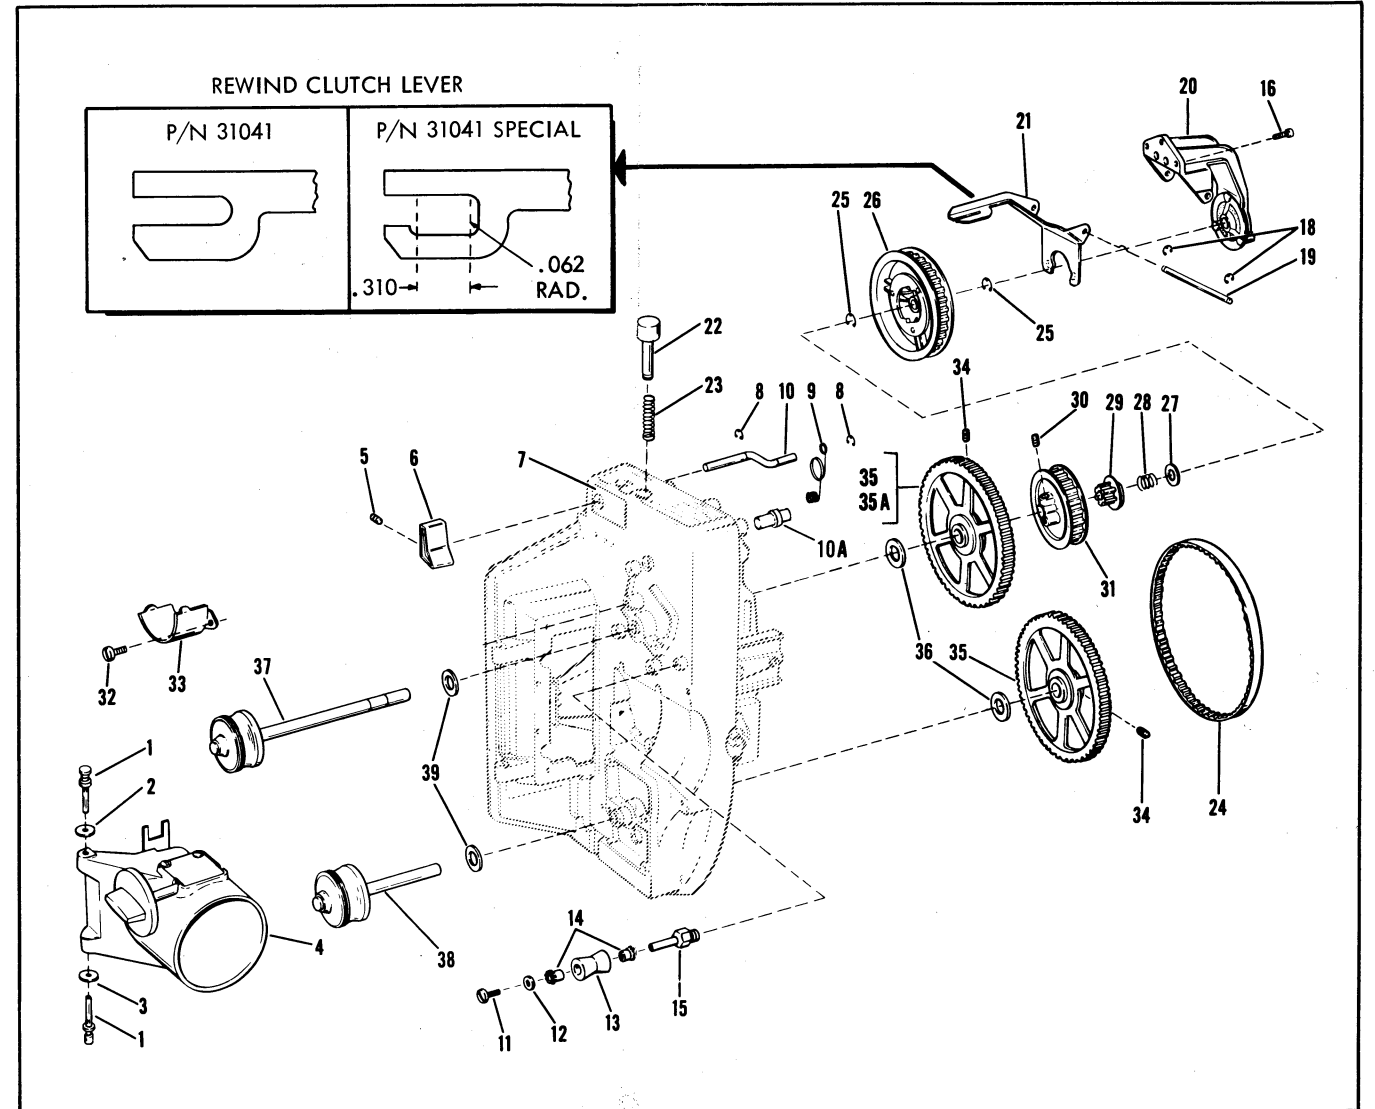

Figure 14. Mechanism Assembly (Sheet 1)
- NOTE B: A modified rewind clutch lever, #31041 special, was installed in some projectors. If clutch lever replacement is necessary compare the lever against the insets in Figure 14 before ordering the replacement lever.